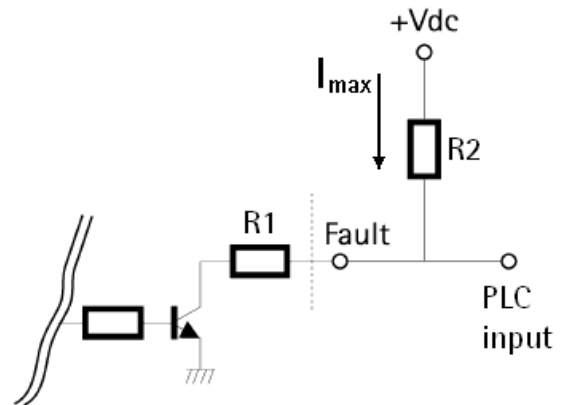
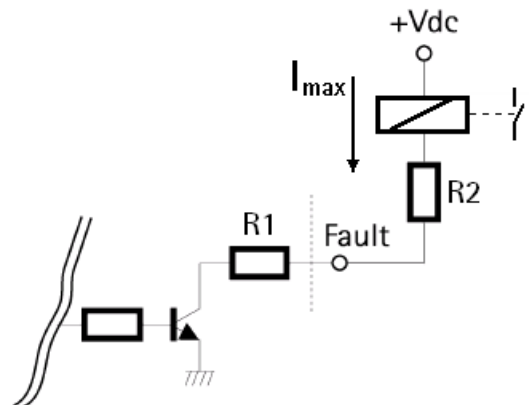

Figure 2
Figure 3
- **Fault**: error signal for cable integrity check. Only available for current outputs. To connect the fault signal, see Figure 2 and Figure 3, pay attention to R2 value. No encoder error = transistor ON (conducting). Encoder error = transistor OFF (open).